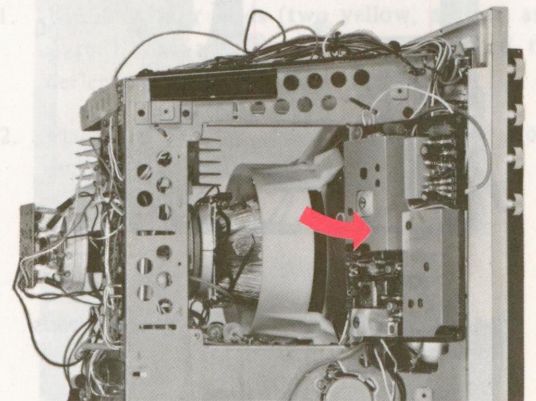

Fig. 2-18. S-board swung out for access to components
3. Swing the S board towards the front as shown in Fig. 2-18.